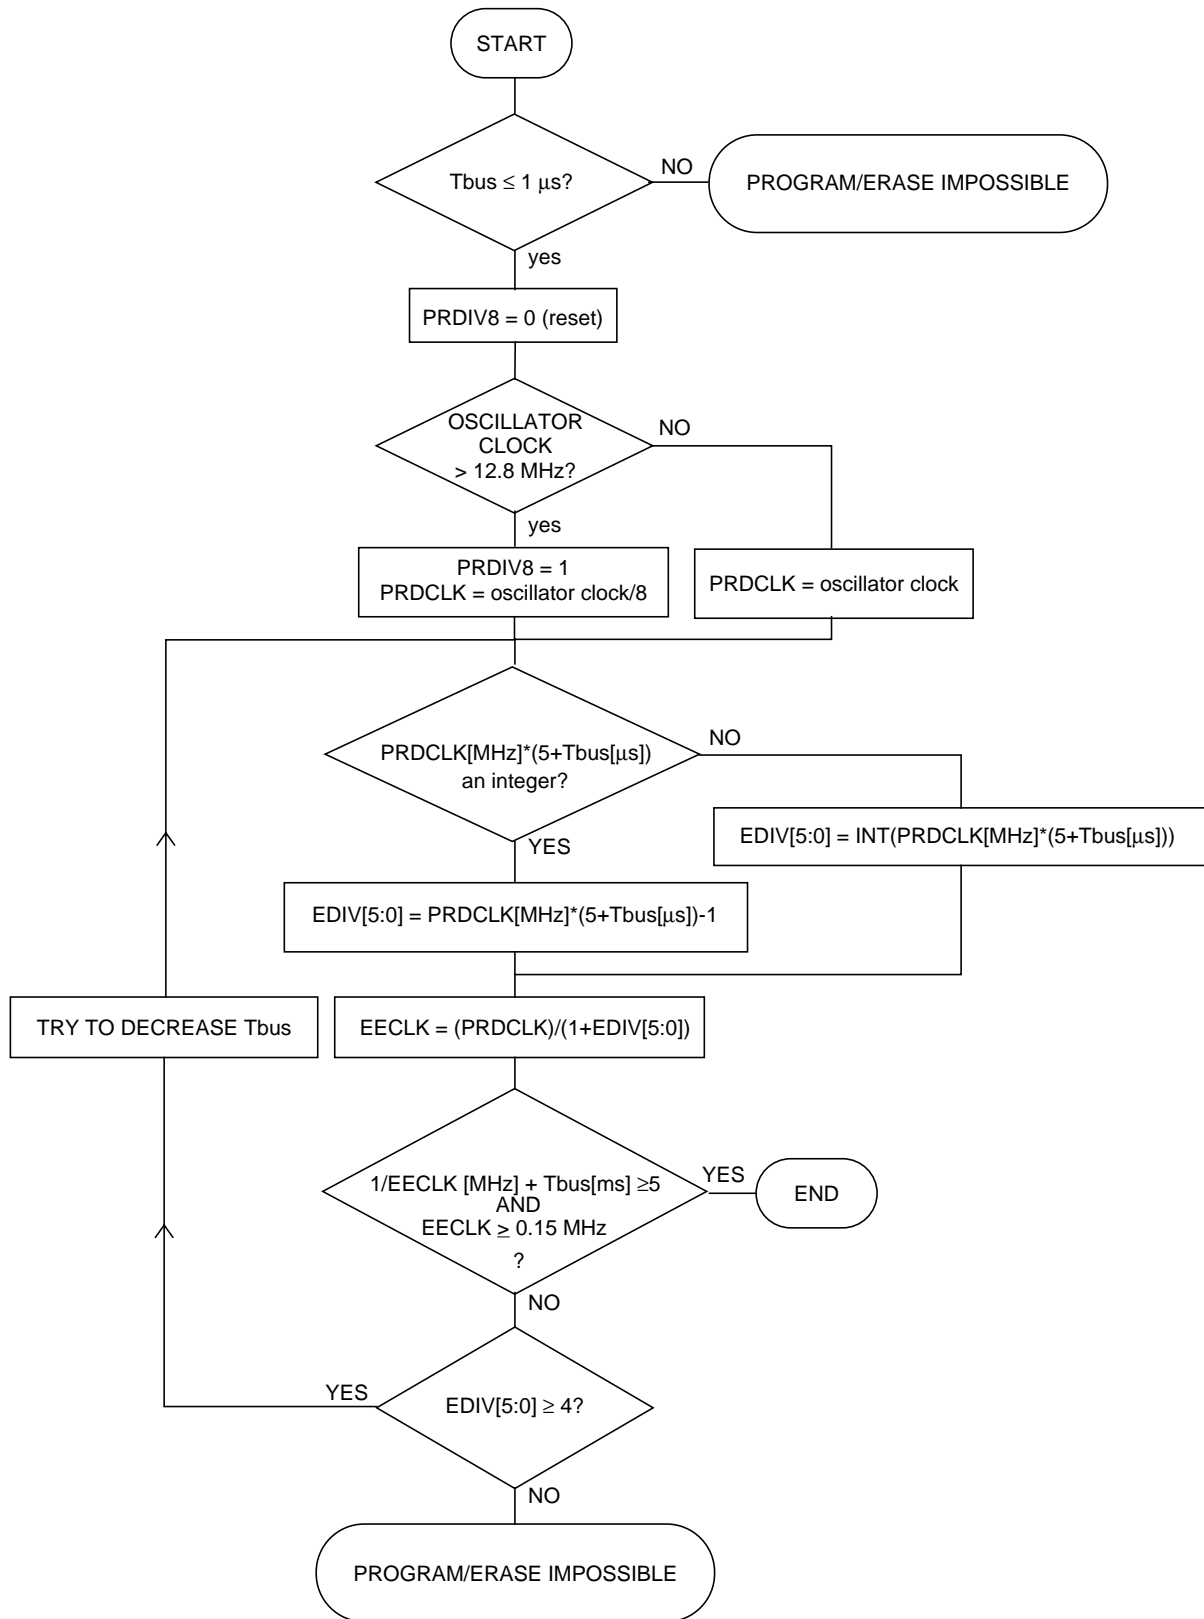

Figure 4-17. PRDIV8 and EDIV Bits Determination Procedure
- INT(x) as taking the integer part of x (e.g., INT(4.323)=4), then ECLKDIV register bits PRDIV8 and EDIV[5:0] are to be set as described in Figure 4-17.